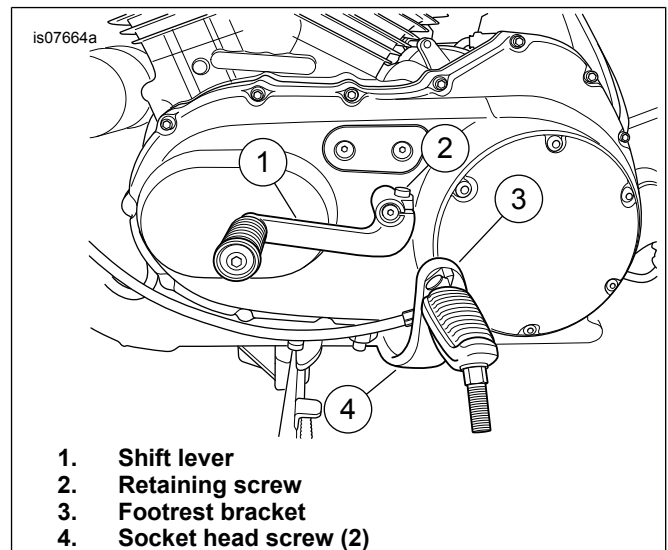

Figure 1. Remove Shift Lever and Footrest
- See Figure 1. Remove shift lever and footrest bracket.
- Remove retaining screw (2) from shift lever (1).
- Remove shift lever (1) from splined shaft.
- Remove shifter peg from shift lever (1). Mark parts for location and orientation upon removal.
- Discard shift lever (1).
- Remove socket head screws (4) and footrest bracket (3) from frame. Discard screws (4).